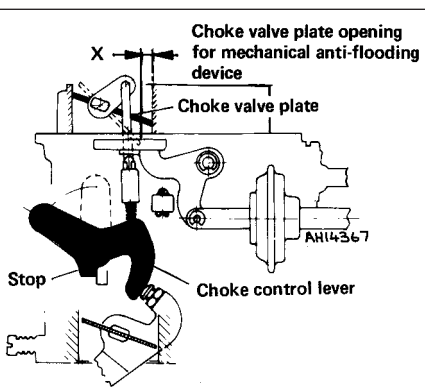

Fig. 3.26 Anti-flooding device (mechanical) adjustment diagram (Weber 30/32 DMTR 90/250) (Sec 14)
9 With the choke control pulled fully out, it should be possible to open the choke valve plate to give a gap (X) of between 7.0 and 7.5 mm (0.28 and 0.30 in). If adjustment is required, carefully bend the stop on the control lever (Fig. 3.26).